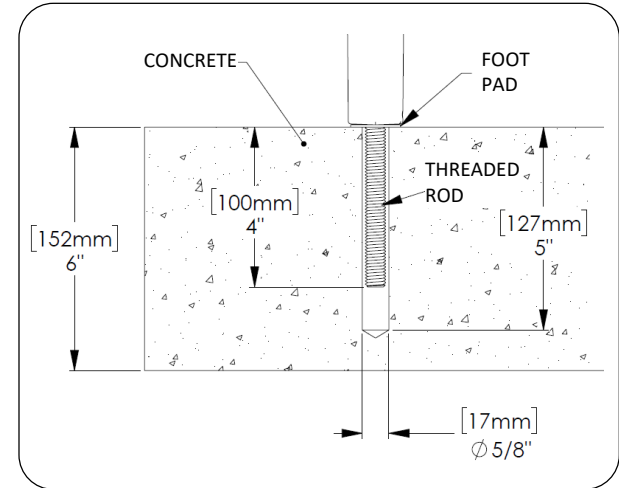

Fig. 7a – Embedded install detail
7. Drill holes according to Fig. 7a if mounting directly into concrete or 7b if installing through pavers. Clear holes of debris.